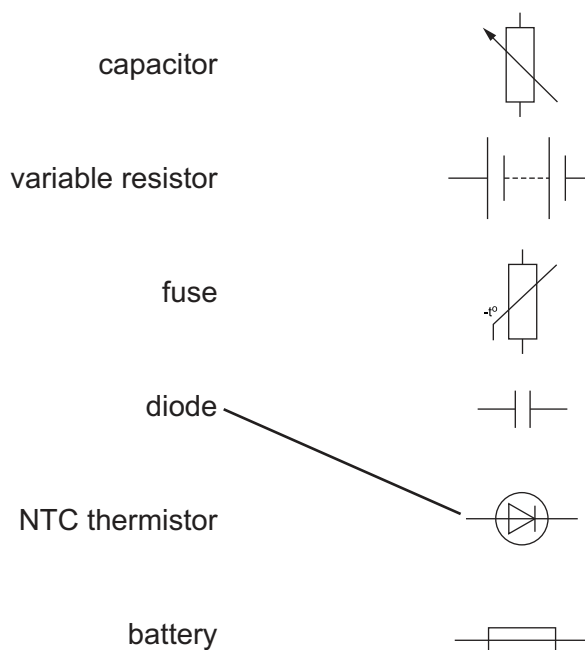

Fig. 7.1
- 7 Fig. 7.1 gives examples of electronic components and symbols. Draw lines to connect the component name to the correct symbol. One has been done for you.